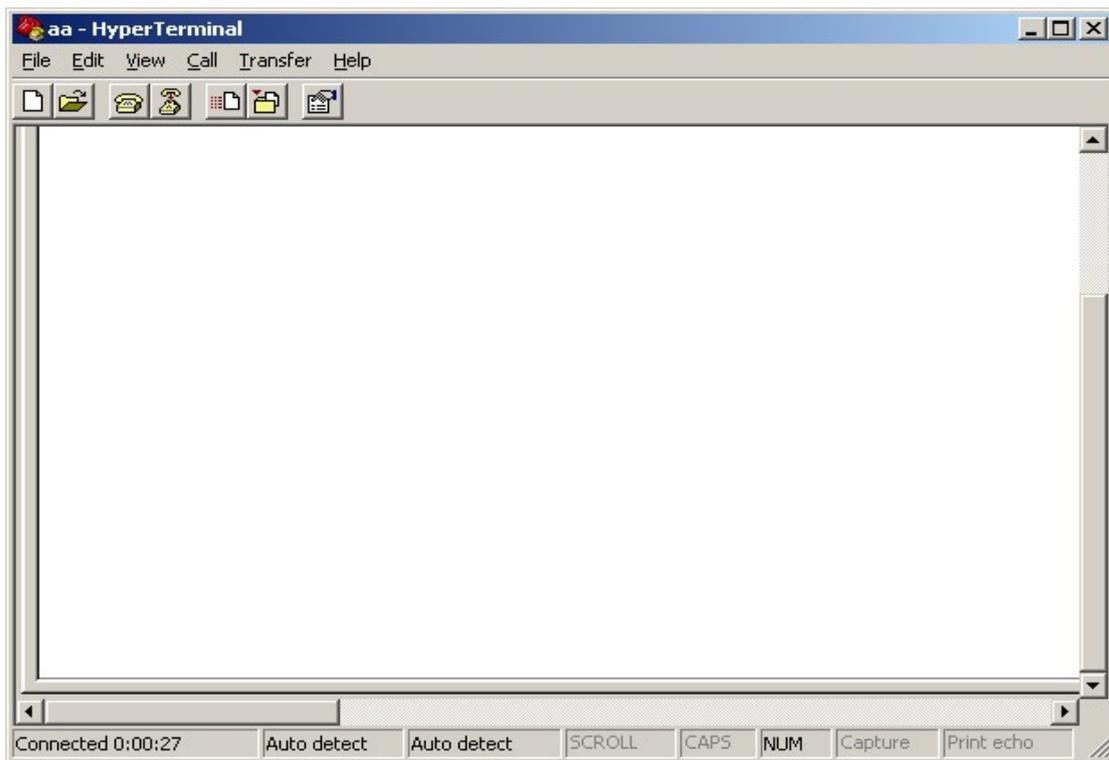

Fig. 3.1.4 Hyper Terminal Interface
finish, the Hyper Terminal interface like Fig. 3.1.4 will appear
**Step 1:** Enter into the Hyper Terminal. Click “ Start”→ “Programs”→ “Accessories”→ “Communications”→ “Hyper Terminal”→ “aa.ht”, the Hyper Terminal interface in Fig. 3.1.4 will appear.